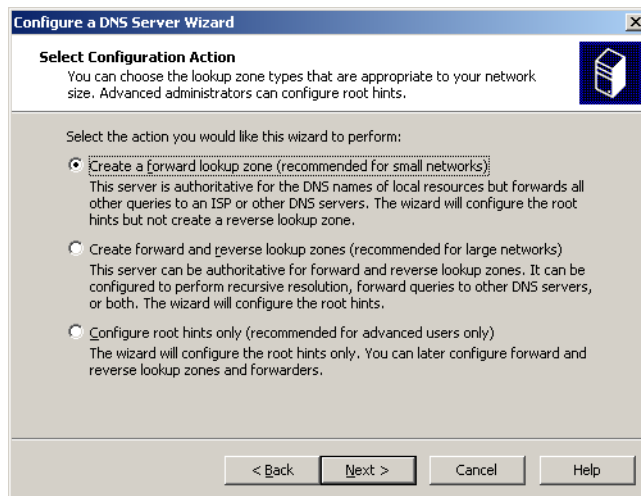

Figure D-49 Select configuration action
8. Select the radio button **Forward Lookup Zone** as shown in figure D-49. Click the **Next** button to continue.